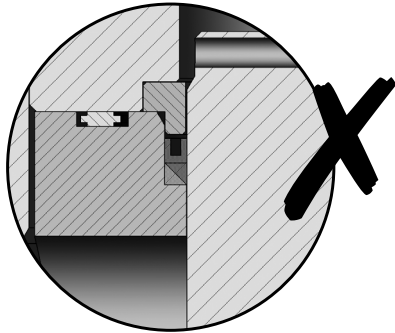

Figure 7A: Incorrect Seal Ring Installation showing lower back-up ring 90° angle facing away from extrusion gap
1. Assemble the seat ring gasket (11) into the valve body (25).
2. Assemble the liner (18) into the valve body (25) making sure that it aligns correctly on top of the seat ring gasket (11).
3. Assemble the plug (20) and stem (21) subassembly into the liner (18).
4. For the balanced trim design configuration (available in 1.5" size only), lubricate the seal ring and both back-up rings (9) and carefully assemble it over the plug (20). Make sure the lower back-up ring right angle corner is facing the extrusion gap between the liner and plug (see Figures 7A and 7B) and the open end of the seal faces upward or away from the seat. Use the seal retainer (Step 5) to push the balance seal and back-up rings fully into the liner.
- Install the seal retainer (8) into the liner (18). For the balanced configuration, use the seal retainer to push the seal ring and back-up rings (9) fully into the liner.
- Install the body gasket (10) and assemble the bonnet (23) onto the body (25). Be careful not to damage the stem (21) while installing the bonnet.
- Assemble the seat ring (19) into the valve body (25) making sure that it aligns correctly on top of the seat ring gasket (11) located in the body.
- Assemble the liner (18) into the valve body (25) making sure it aligns correctly on top of the seat ring (19) and seat ring gasket (11).
- Assemble the plug (20) and stem (21) subassembly into the liner (18).
- For the balanced trim design configuration, lubricate the seal ring and both back-up rings (9) and carefully assemble it over the plug (20). Make sure the lower back-up ring right angle corner is facing the extrusion gap between the liner and plug (see Figures 7A and 7B) and the open end of the seal faces upward or away from the seat. Use the seal retainer (step 7) to push the balance seal and back-up rings fully into the liner.
- Install the seal retainer (8) into the liner (18). For the balanced configuration, use the seal retainer to push the seal ring and back-up rings (9) fully into the liner (18).